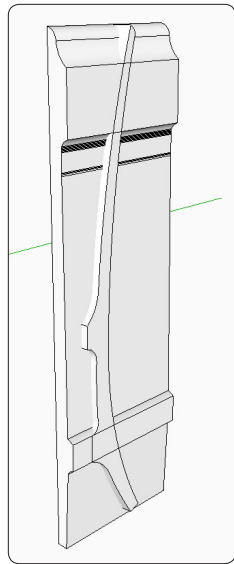

Figure 77. Push the front view completely through the side view, then execute an Intersect command.
Step 4 Use the Push/Pull Tool to push the front shape through the leg blank, as shown in Figure 77. Select all the graphics, right-click, and choose Intersect Faces with Selection from the pop-up menu. Remove the waste and lay out the leg joints. Figure 78 shows the shaped leg. You can make the other parts of the rocker in similar fashion.